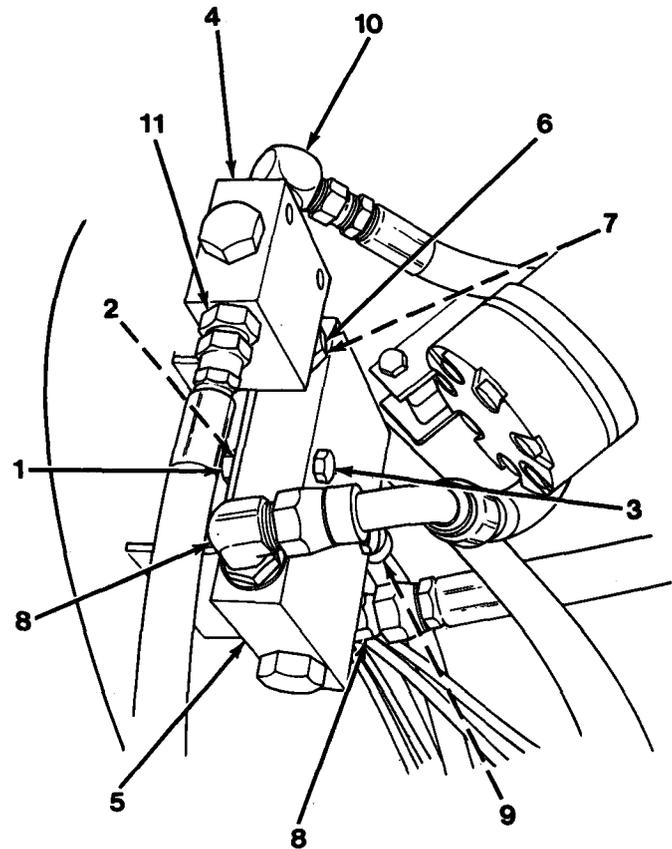

Figure 13-1
3. Disconnect hoses from flow divider (4) and steering valve (5, Figure 13-1).
4. Remove two nuts (1), lockwashers (2) and capscrews (3).
5. Remove flow divider (4) and steering valve (5) as a unit from its frame location.
6. Remove flow divider (4) horn steering valve (5). Remove adapter (6) and two O-rings (7).